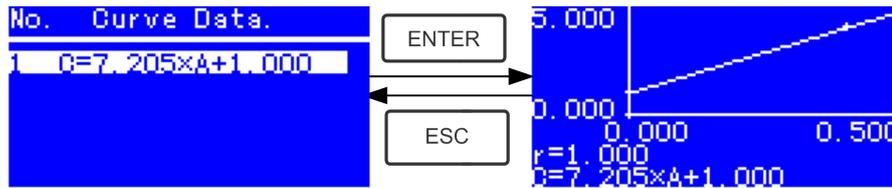

Fig. 4-14
- ★ Move the cursor on the equation that you need and press  to confirm. Then the corresponding curve will display on the screen. (Fig. 4-14)